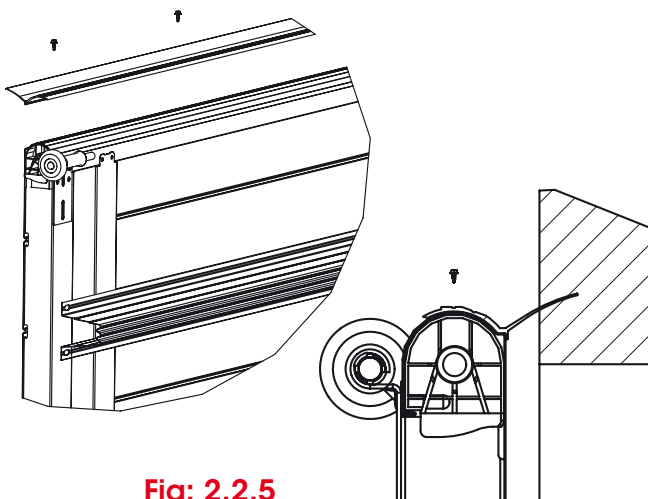

Fig: 2.2.5
- j) Once you have finished assembling the middle panels, fit the PFI Seal (if included) to the top panel as shown in Fig 2.2.5 or alternatively fit the seal to the lintel. The fixing points should be spaced at 300 - 400 mm centres.